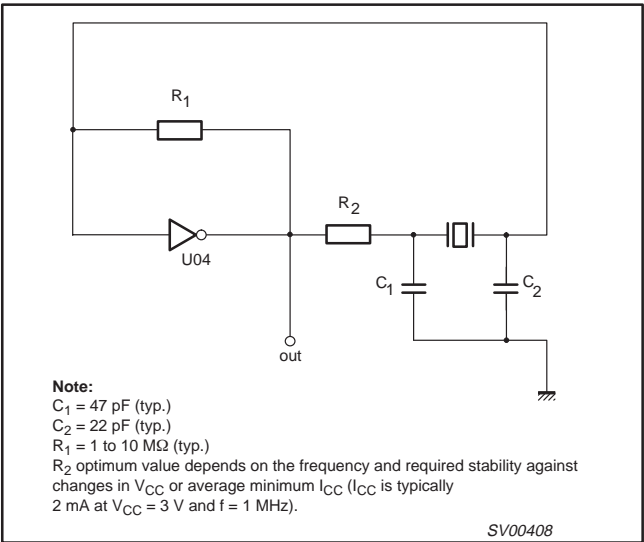

Figure 8. Crystal oscillator configuration.
- In crystal oscillator designs (see Figure 8)